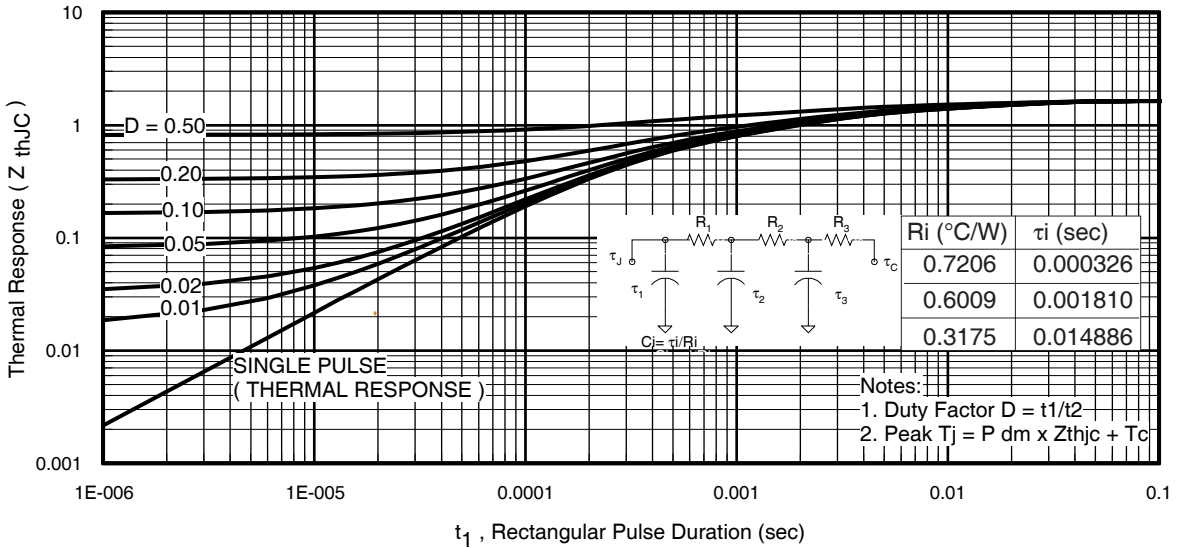

Fig 11. Maximum Effective Transient Thermal Impedance, Junction-to-Case
$Z_{thJC}(D, t_{av})$ = Transient thermal resistance, see figure 11)
- ① Repetitive rating; pulse width limited by max. junction temperature. (See fig. 11).
- ② Limited by T_{Jmax} , starting $T_J = 25^\circ\text{C}$, $L = 0.11\text{mH}$, $R_G = 25\Omega$, $I_{AS} = 37\text{A}$, $V_{GS} = 10\text{V}$. Part not recommended for use above this value.
- ③ Pulse width $\leq 1.0\text{ms}$; duty cycle $\leq 2\%$.
- ④ C_{OSS} eff. is a fixed capacitance that gives the same charging time as C_{OSS} while V_{DS} is rising from 0 to 80% V_{DSS} .